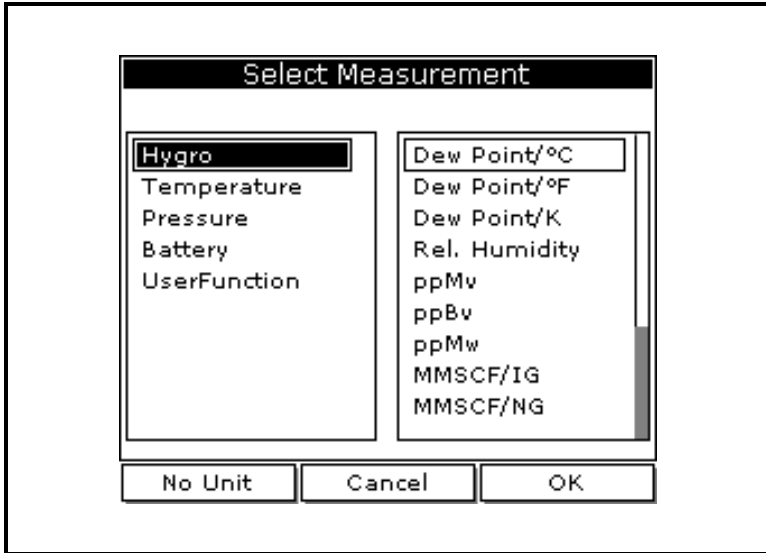

Figure 5-4: The Select Measurement Window
1. Use the [▼] key to step to a box and press [ENTER]. A screen similar to Figure 5-4 below appears.